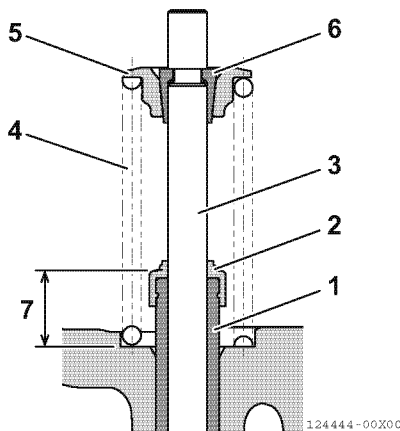
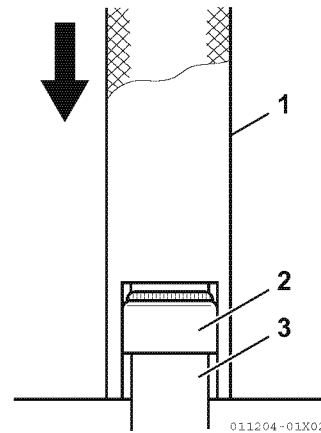

Fig.14-33
Fig.14-34
For inspecting the intake/exhaust valves and valve springs, instructions for removing and re-attaching the intake/exhaust valve assembly are explained below. The intake/exhaust valve assembly is configured as shown in Fig.14-33.
1. Apply clean lubricating oil to the lip face of the valve stem seal (2, Fig.14-33), and attach to the valve guide (1, Fig.14-33). For attaching, use the valve stem seal installation tool (1, Fig.14-34) to insert a new valve stem seal (2, Fig.14-34) on each valve guide (3, Fig.14-34).
2. When inserting the valve stem seal, make sure that the protrusion amount from the cylinder head (from the cylinder head face to the shoulder part of the valve stem seal) (7, Fig.14-33) meets the reference value. For basic protrusion amount, see 0000-07-01-01 "Intake/exhaust valves and valve guide".